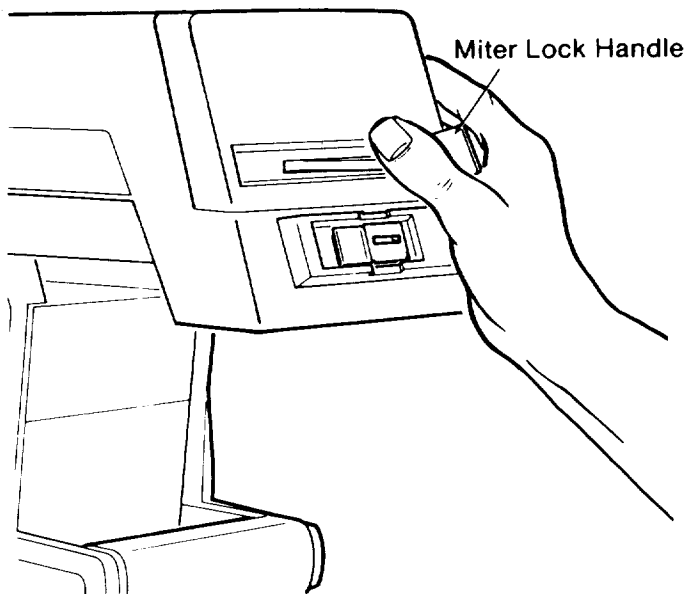

Fig. 131 - Miter Lock - Unlocked
1. Move the *arm* to an unindexed position and leave the *miter lock* in the unlocked position. (Figure 131)